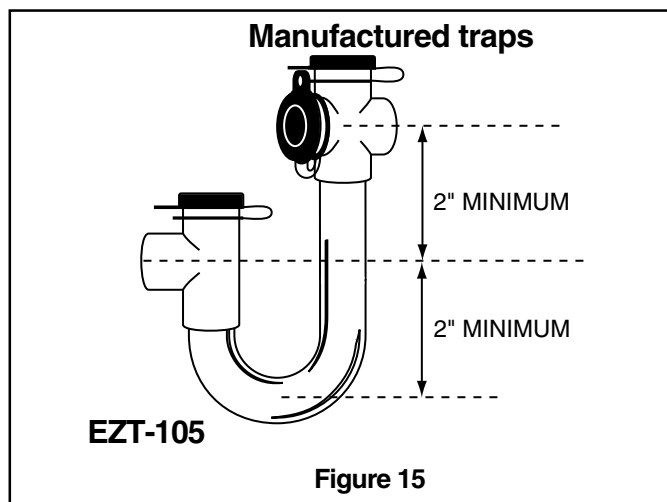

Figure 15
1. The primary drain line must be trapped with a minimum of 2" water seal as shown in Figures 15 & 16. **Do not use preformed 3/4" PVC running traps.**
The use of Field fabricated or manufactured traps as shown in Figures 15 & 16 is acceptable. The manufactured trap shown in Figure 15 allows for a float switch option to be added.
3. It is recommended that a clean-out tee or cross be installed in the primary drain line for future maintenance (See Figure 15 & 16).